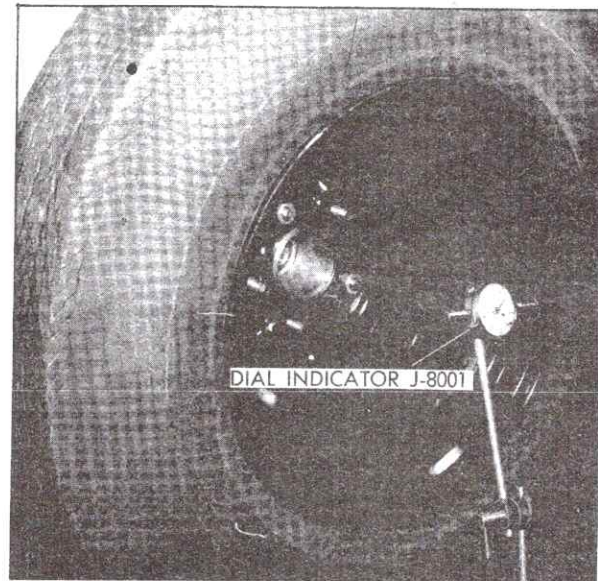

Fig. 3-44 Spherical Joint Horizontal Check
2. Position dial indicator as shown in Fig. 3-44.